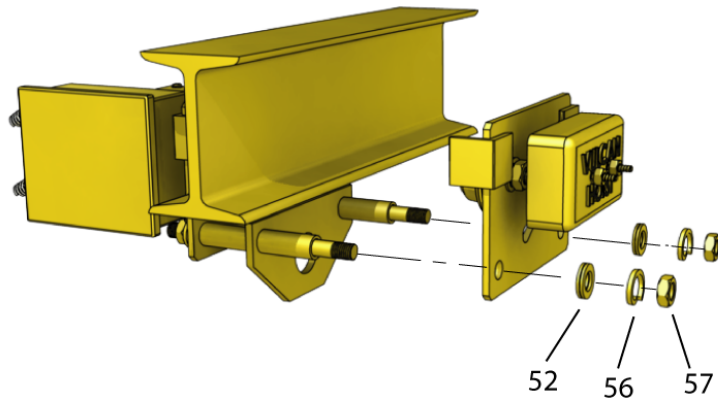

fig. 2
- B. If you do not have access to the beam from the ends, remove nuts from stay bolts on one side of trolley. Place one set of wheels on beam flange, then, place other set of wheels on the other side of beam, and then, reinstall nuts on stay bolts (p.8, FIG.2)
- C. IMPORTANT: verify if all spacers, lock washers & nuts are in the correct places, (p.8, fig.2)